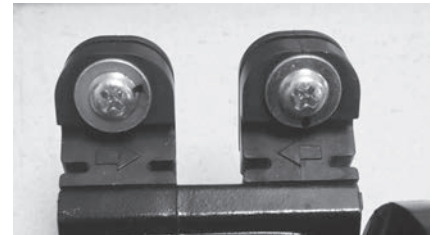

Figure 167 - Water pump gasket boot orientation
- 25** Remove the four (4) gasket boots with screws from the old water pump by sliding them out of the brackets. Note orientation of gasket boots for proper installation to new water pump. See Figure 167.